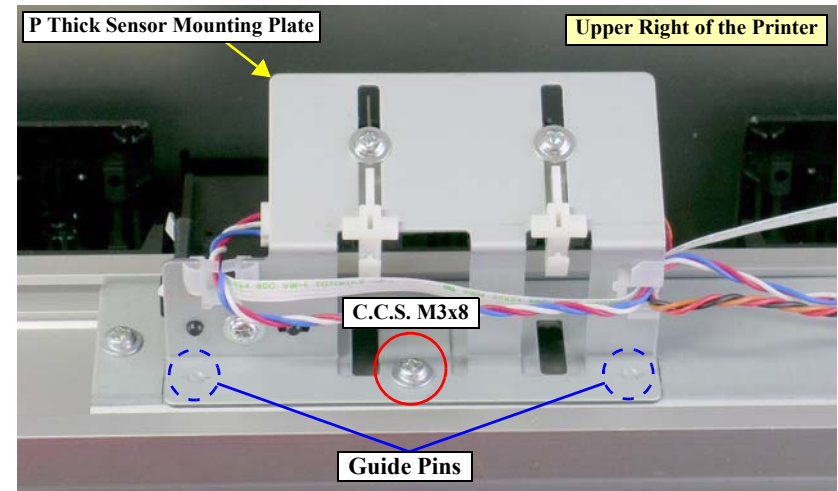

Figure 4-93. Screws Securing the P Thick Sensor Mounting Plate
2. Remove the screw that secures the P Thick Sensor Mounting Plate and remove it. *See Figure 4-93.*
When reinstalling the P Thick Sensor Mounting Plate, make sure the two guide pins on the Mounting Plate are set in the mounting holes. *See Figure 4-93.*